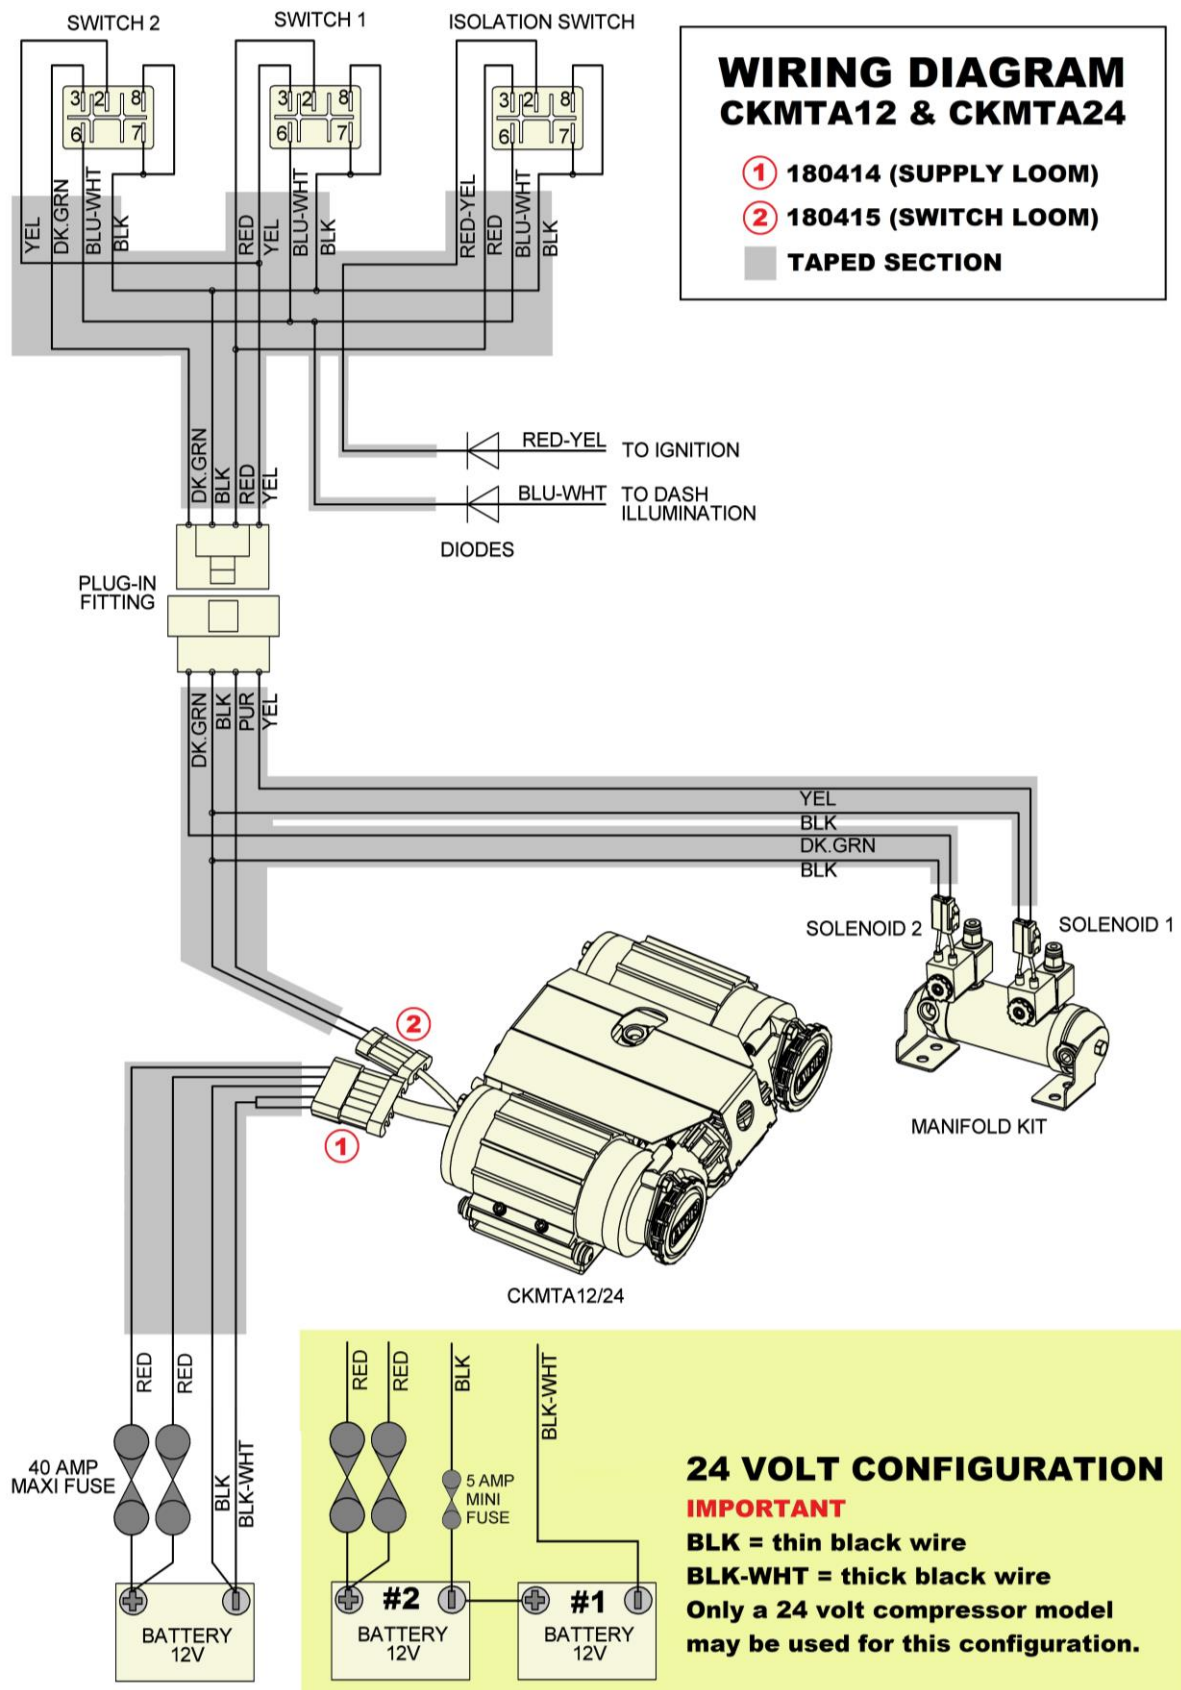
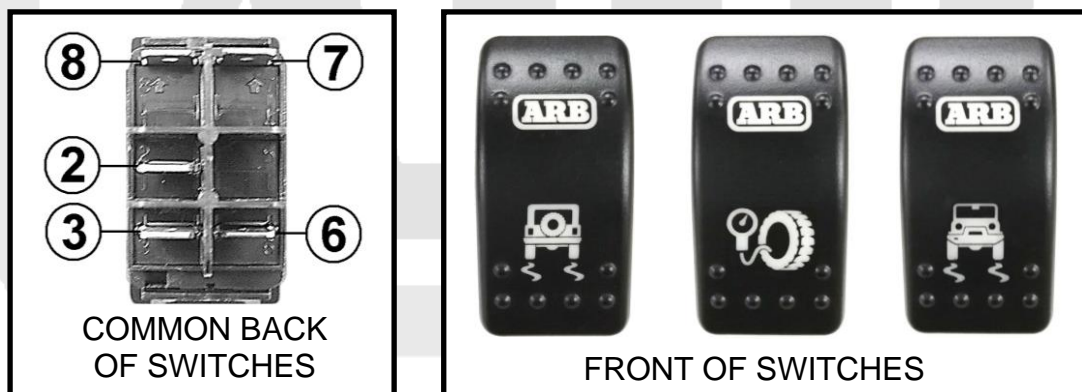

Figure 9.
Figure 10.
When wiring an ARB compressor switch, *Air Locker* actuator switch(es) and *Air Locker* solenoid(s), all connections can easily be set up using only the supplied wiring looms (ARB #180414 and 180415 shown in Fig. 9.)
- ☐ Consulting the wiring diagram (Fig.9.) for wire colors, and the switch terminal illustration (Fig.10.), plug each of the female spade terminals onto their appropriate switch terminal.
SINGLE AIR LOCKER: If only one Air Locker is installed then it should be wired using the terminals for 'SWITCH 1', regardless of whether the Air Locker is mounted in the front or rear axle. Wire the 'ISOLATION SWITCH' according to Figure 9, and leave the 'SWITCH 2' wiring disconnected.
NO AIR LOCKERS: To install the CKMTA12 in a vehicle without Air Lockers, the spade terminal connections for 'SWITCH 1' and 'SWITCH 2' as well as Solenoid 1 and 2 can be left disconnected. Make the remaining connections according to Figure 9. The isolation switch will function as a compressor ON/OFF switch.
NOTE : In a 12V system the 2 black wires (BLK and BLK-WHT) will be joined together, so they may be crimped together into the same eye terminal if desired. Refer to wiring diagram in Fig 9.
- ☐ Identify which battery in the system will be used as the 24V negative (-) terminal (i.e., Battery #1 in the wiring diagram Fig. 9.) by connecting a multimeter across the positive (+) terminal of one battery to the negative (-) terminal of the other battery. If you have tested the correct negative (-) terminal then you will read approximately 24 volts on the multimeter, and this battery will be battery #1, and the other battery with the positive (+) terminal you have just tested will be battery #2 (refer to wiring diagram Fig. 9.).
NOTE : Double check that the connections match the wiring diagram (Fig 9.). Accidentally reversing the 2 black wires will cause damage to the compressor kit.
The following describes an effective procedure for tracing an electrical fault in a CKMTA12 or CKMTA24 compressor which has been wired using a genuine ARB wiring loom (refer to the diagram in Figure 9.). All steps must be performed in the order listed here for an accurate assessment.